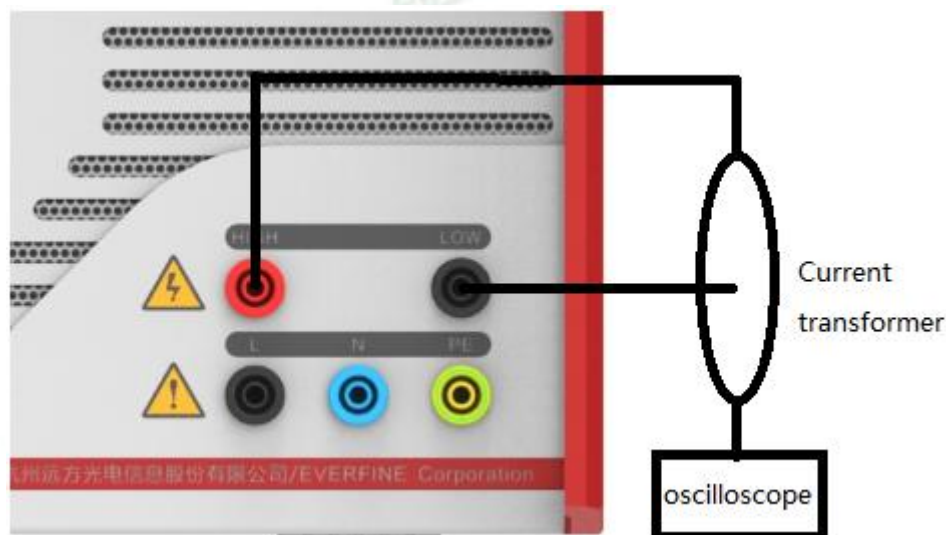

Fig 6.2 CWG module directly output short circuit current test wiring diagram
(2) Test steps:
- ① According to Fig 6.2 wiring, set "module selection" as CWG, "trigger mode" as automatic, "pulse interval/times" as 100, "phase" as asynchronous, "polarity" as "+", and "coupling path" as direct output.
- ② Select the four test points of "voltage" - "set value" for 0.5kV, 2.0kV, 4kV and 7kV.
- ③ Press the run button at each test point. Read short circuit current peak, wave front time, half peak time and overrush from the oscilloscope, and the allowable error shall meet the requirements of relevant technical indexes in Chapter 2.
- ④ When the test is complete, set "polarity" to "-" and repeat the steps②、③.